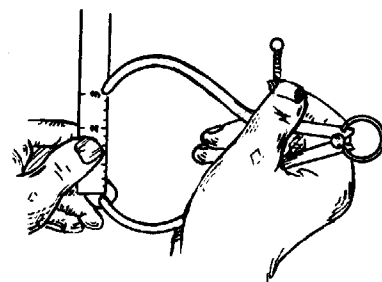

FIG. 5 SETTING AN OUTSIDE CALIPER
**NOTE:** The caliper may be used to check a given size by first setting it to the desired dimension from a steel rule (Fig. 5). Then use the caliper as a gage in selecting a piece of the required size.